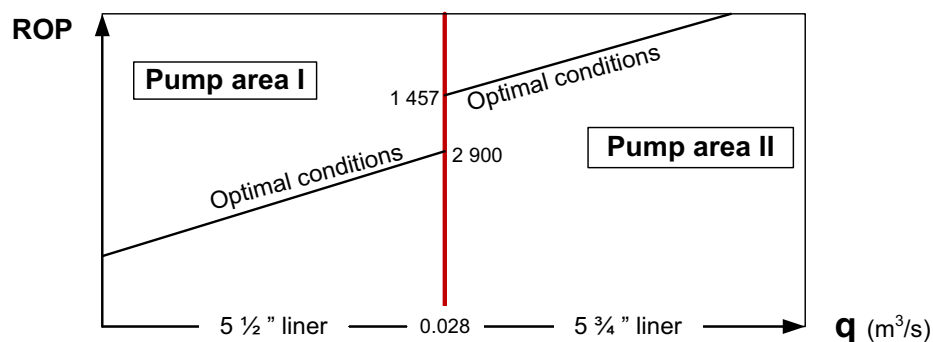
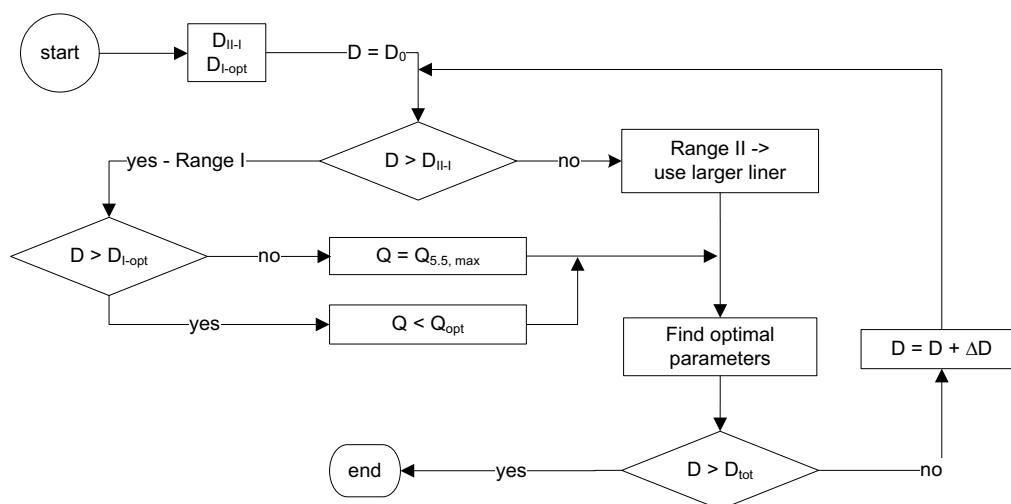

Figure 4-7.1: Boundary area between pump area II and I.
Figure 4-7.2: Flow chart of estimating hydraulic parameters while in the boundary zone between the two pump areas.
- a) Find first which working area prevails in the boundary zone between pump area II and I, which are valid as indicated in Figure 4-7.1. Area II ends with the 5.75" liner when $q_{\max, 5.5}$ is reached:
- b) In Figure 4-7.1 we see the division between the two pump areas. A preliminary solution of how to distinguish between them is given in Figure 4-7.2, its upper part.